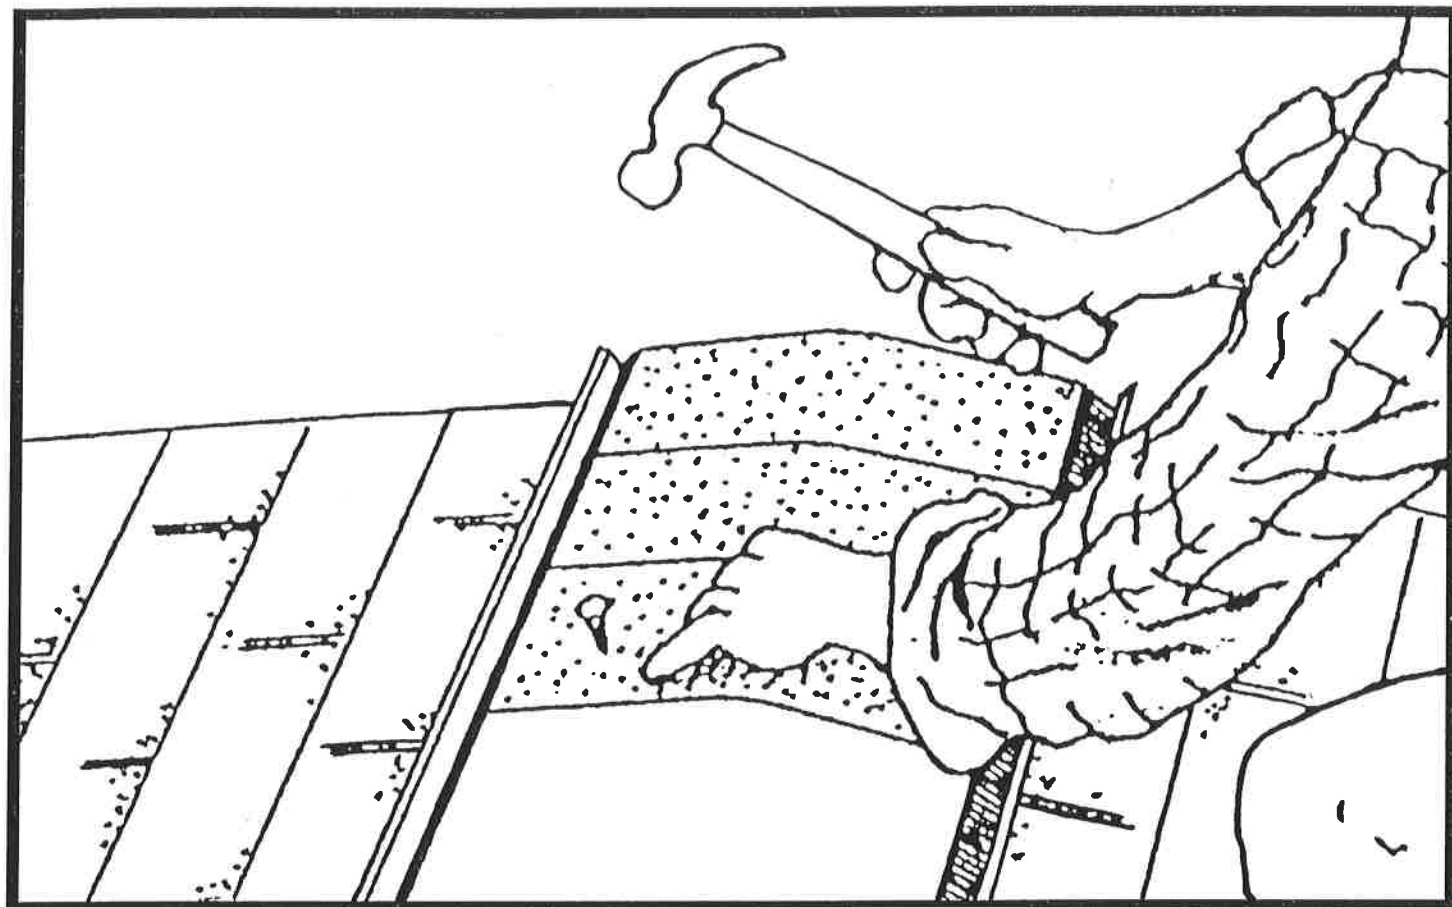

FIG. 8
12. Nail ridge vent cap shingles in place using 2 inch roofing nails. Start at one end of the vent and work towards other end. Nail shingles in place utilizing 5-inch shingle exposure. See figure 8. Seal ends of ridge vent per the vent manufacturer installation instructions.